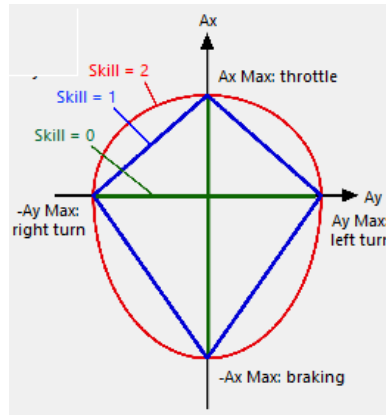

Figure 29. Three skill levels used to combine lateral and longitudinal acceleration.
6. The acceptable combination of lateral and longitudinal acceleration is determined one of three ways, based on the parameter OPT\_SC\_SKILL, which may be given a value of 0, 1, or 2 (Figure 29).